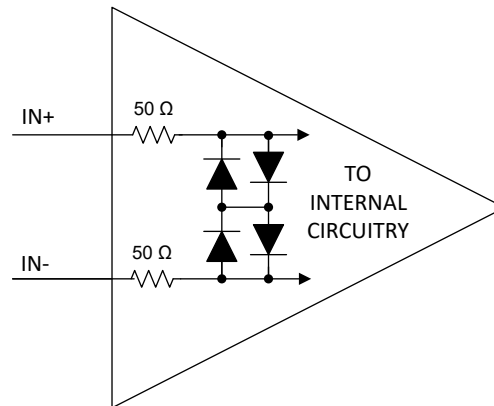

Figure 7-1. Input Stage Circuitry
The TLV3801/TLV3811(C) feature an input stage, capable of operating between 1.5 V above VEE (GND for TLV3811(C)) and 0.1 V above VCC, with an internal ESD protection circuit that includes two pairs of front-to-back diodes between IN+ and IN- as well as two 50 Ω resistors, as shown in Figure 7-1. This prevents damage to the input stage by limiting the differential input voltage to be no more than twice the diode's forward-voltage drop $2 \times V_F$ (2×0.7 V).